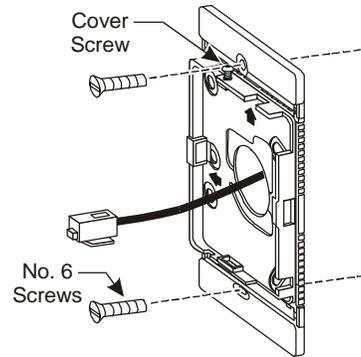

Figure 2: Wallbox Mounting
3. Fasten the base to the wallbox with the No. 6-32 x 7/8 in. (22 mm) screws provided. (See Figure 2)